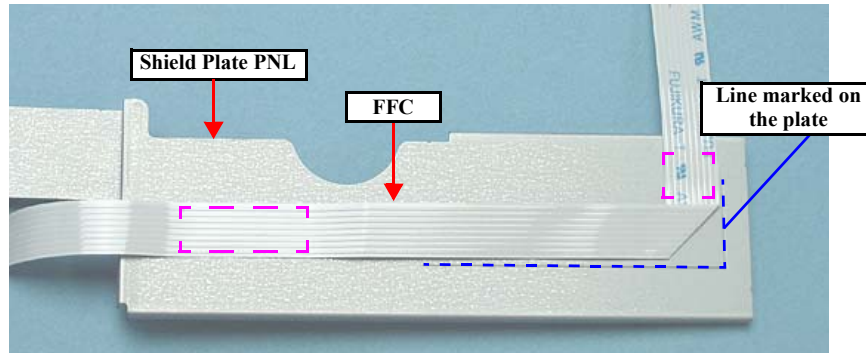

Figure 4-77. Removing the FFC (R260/R265/R270)
- For the R260/R265/R270, when installing the FFC to the Shield Plate PNL, align the FFC edges with the lines marked on the plate as shown in Fig.4-77, and secure it with double-sided tape. When screwing the Panel Board Assy, tighten the screws in the order given in Fig.4-74.